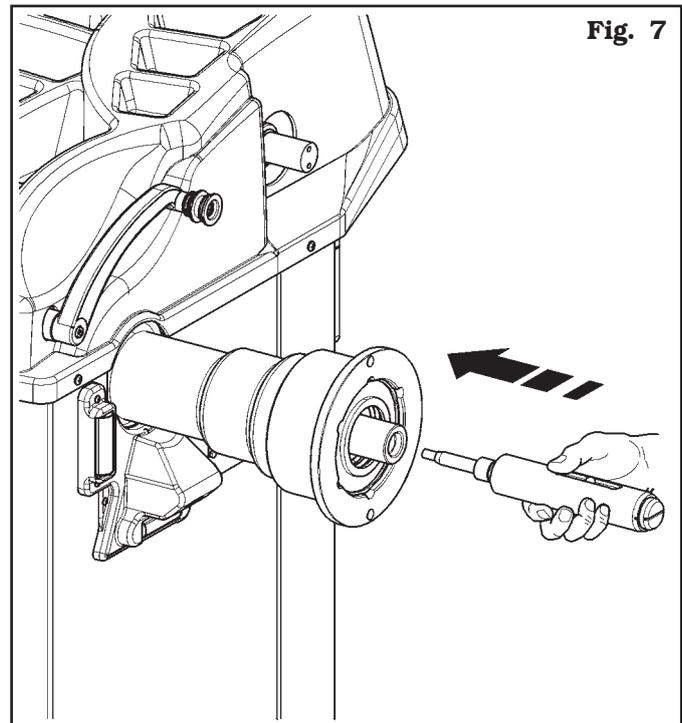

Fig. 7
1. After making power and air connections switch on the machine (the pneumatic mandrel always opens when the machine is switched on). Switch the machine off. Fit the internal mandrel on the flange and tighten it with the wrench provided (Fig. 7 and Fig. 8).